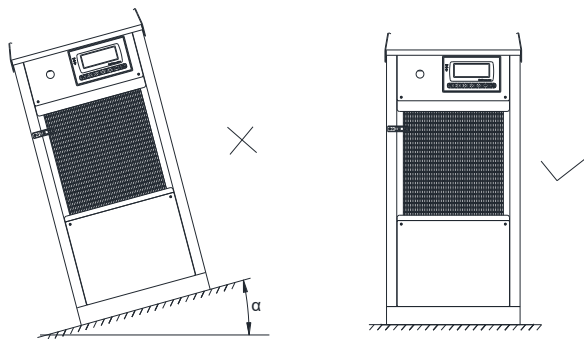

Fig. 3
- ♦ It shall be installed horizontally and fixed with bolts. (See Fig. 3)